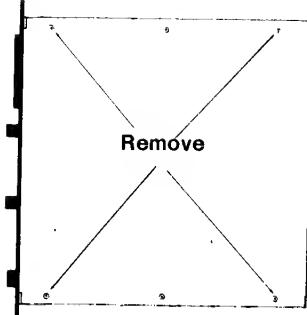

FIGURE 1
*Counter-top placement*—Turn the unit upside down and remove the four screws from the bottom cover as indicated in Figure 1. Install the four rubber feet using the four 6-32 x  $\frac{3}{8}$ " screws.